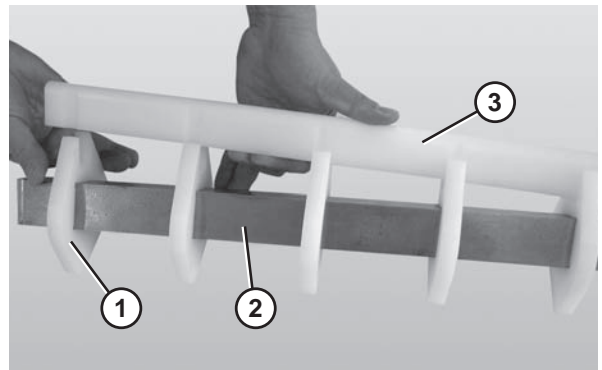

Figure 69
- Remove the nose bar wear strip (**Figure 69, item 3**).
- Slide the nose bar pucks (**Figure 69, item 1**) off the nose bar shaft (**Figure 69, item 2**).